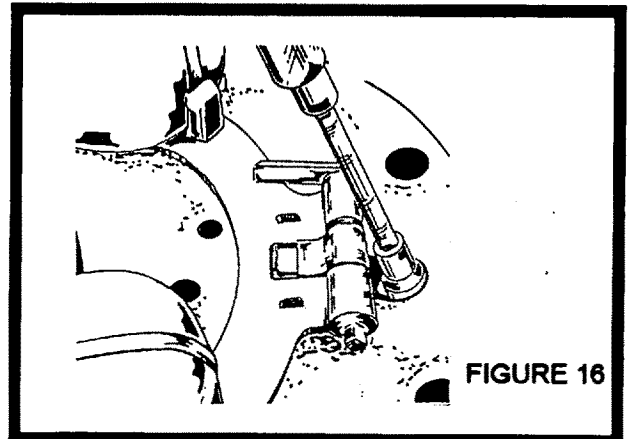

FIGURE 16
- 77) Slide the float into position as shown in Figure 16 and insert the float lever shaft (6) through the float bracket (25), float lever hinge and the float valve retractor clip (8).